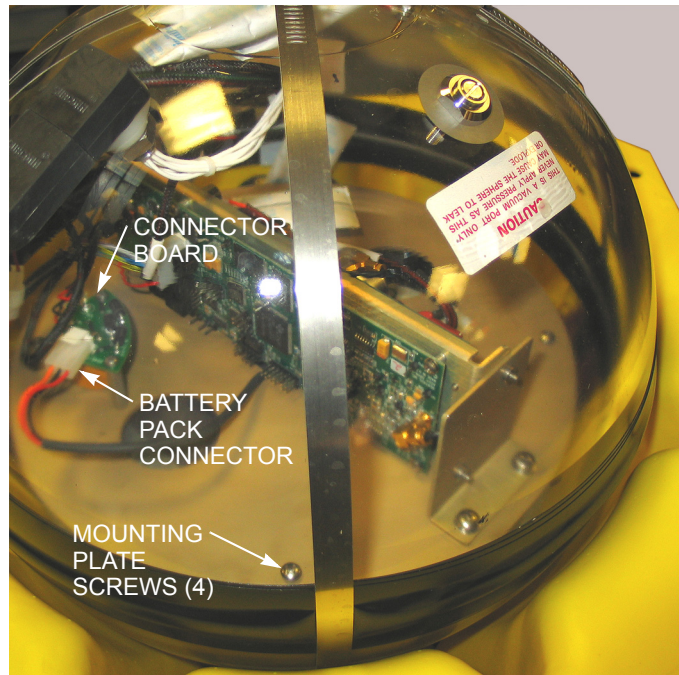

Figure 4-4 Mounting Plate Screws, Battery Pack Connector and Connector Board
10. Remove the four mounting plate screws as shown in Figure 4-4.